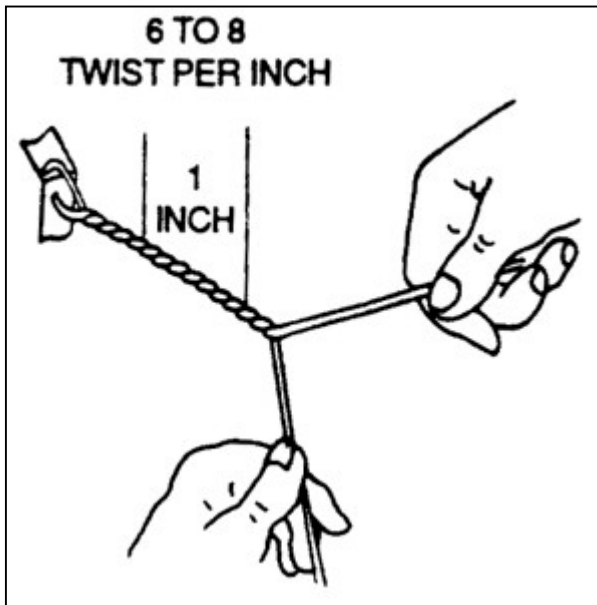

FIGURE 7-3a. Wire twisting by hand.
**e. Safety wire** must never be overstressed. Safety wire will break under vibrations if twisted too tightly. Safety wire must be pulled taut when being twisted, and maintain a light tension when secured. (See figure 7-3a.)
(1) Check the units to be safety wired to make sure that they have been correctly torqued, and that the wiring holes are properly aligned to each other. When there are two or more units, it is desirable that the holes in the units be aligned to each other. Never overtorque or loosen to obtain proper alignment of the holes. It should be possible to align the wiring holes when the bolts are torqued within the specified limits. Washers may be used (see paragraph 7-37) to establish proper alignment. However, if it is impossible to obtain a proper alignment of the holes without undertorquing or overtorquing, try another bolt which will permit proper alignment within the specified torque limits.
(2) To prevent mutilation of the twisted section of wire, when using pliers, grasp the wires at the ends. Safety wire must not be nicked, kinked, or mutilated. Never twist the wire ends off with pliers; and, when cutting off